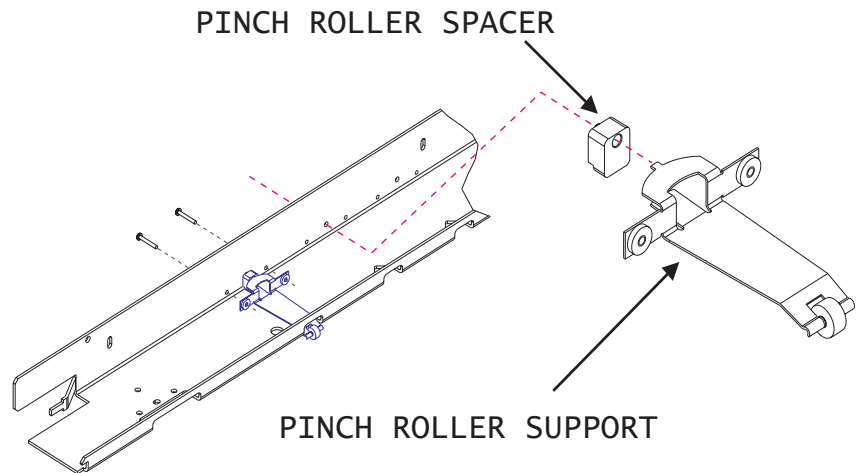

Figure 5-25. Removing the Upper Pinch Roller Support.
4. Use the #1 Phillips Screwdriver to remove the screws which hold the far left Upper Pinch Roller Support on the Y-Bracket. (The screws are located on the back of the Y-Bracket. See Figure 5-25.) **MAKE SURE YOU ARE LOOSENING THE CORRECT SCREWS AND NOT THE ONES WHICH HOLD ON THE STABILIZER BRACKET!**
1. Place the roller end of an Upper Pinch Roller Support behind the Slide Shaft (between the back of the Slide Shaft and the front of the Stabilizer Bracket) and push it forward as far as possible through the Upper Pinch Roller Support opening in the front of the Y-Bracket. See Figure 5-25.
3. Move the Upper Pinch Roller Support into place. Make sure the point on top back of the Upper Pinch Roller Support is in its hole in the Pinch Roller Spacer. See Figure 5-25.